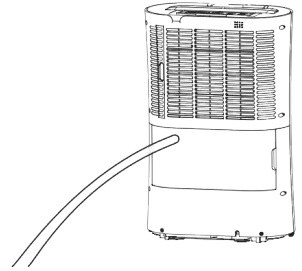

Fig. 5
4. Connect the draining hose (13) to the outlet neck (11) (Fig. 5).